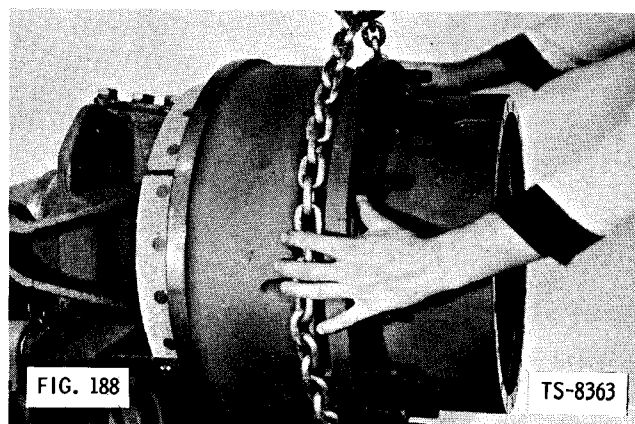

FIG. 188
29. Lubricate lip of hub and drum oil seal with Lubriplate. Position hub and drum on axle (Fig. 188). Care should be taken to align hub and drum assembly with spindle so that no cocking of inner hub bearing occurs when sliding assembly on spindle.
37. Install nut lock and outer nut and tighten securely as shown in Fig. 188 to lock inner nut in position. Recheck rotating preload torque by one of two methods outlined above.